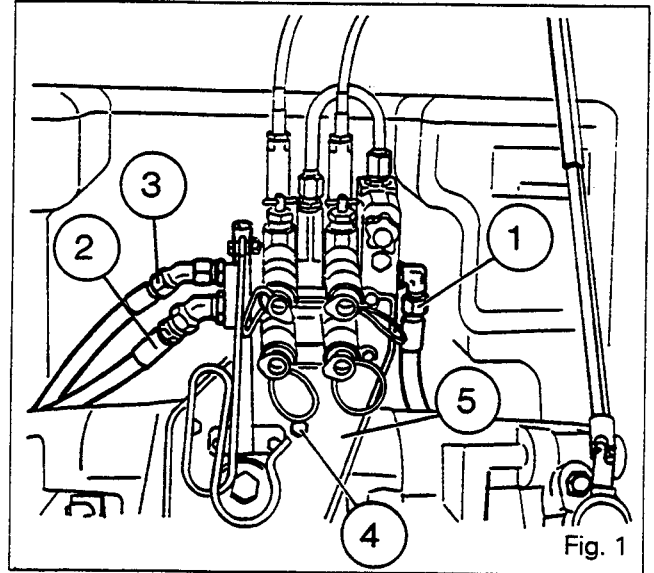

Fig. 1
1. Disconnect (Fig. 1) :
- . the auxiliary spool valve supply hose (1)
- . the supply hose of the lift valve (3)
- . the return hose (2)
2. Remove the bolts (4) of the auxiliary spool valve support (5) (Fig. 1).
17. Smear the threads of the two lower bolts (4) with Loctite 510. Fit and tighten the bolts (4) to a torque of 50-70 Nm (Fig. 1).
18. Reconnect (Fig. 1):
- the spool valve supply hose (1)
- the supply hose of the lift valve (3)
- the return hose (2).